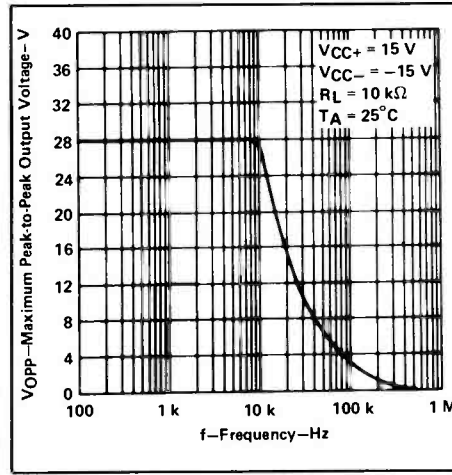

Fig. 5. Maximum peak-to-peak output voltage plotted against frequency. (Courtesy Texas Instruments)
(F) Plot your results on a copy of Fig 5. and compare results.